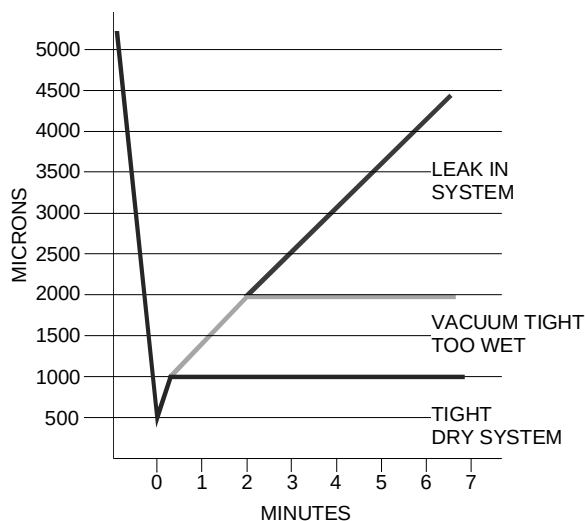

Figure 5
7. Close the valve to the vacuum pump. Wait five minutes, then check the pressure on the thermocouple vacuum gauge (Figure 5).